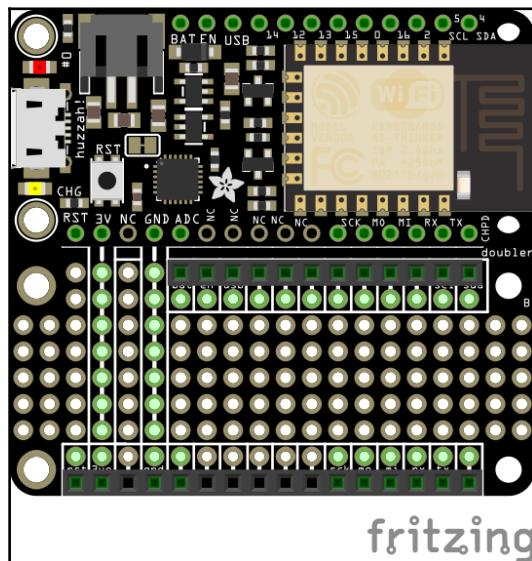

Figure 6.19: Placing the Adafruit Feather HUZZAH ESP8266 on the FeatherWing Doubler
2. Place the Adafruit Feather HUZZAH ESP8266 on the FeatherWing Doubler as shown in *Figure 6.19*: